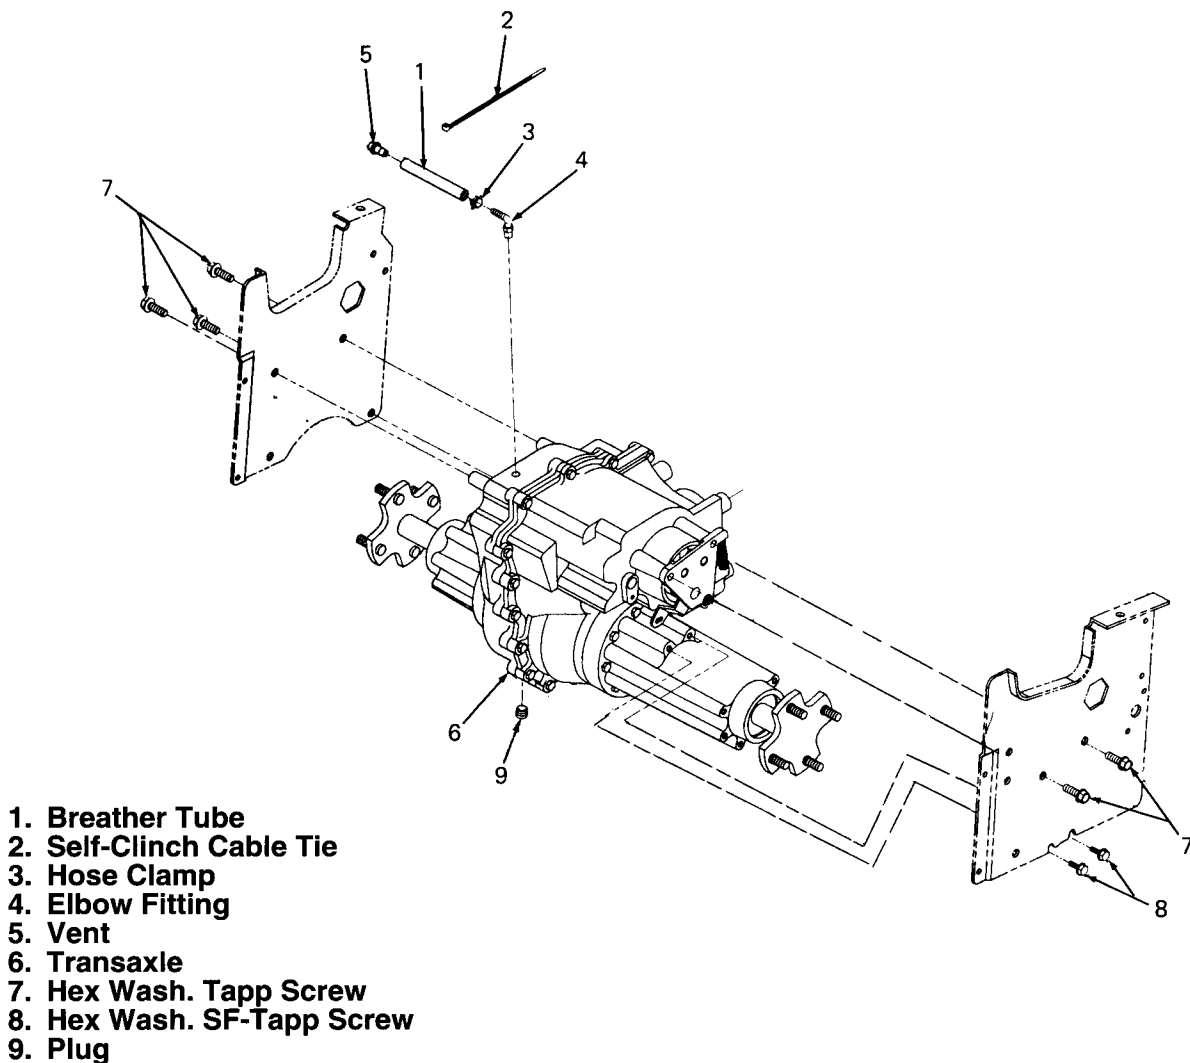

Figure 5-32. Transaxle Removal (All Models).
14. Remove the four screws (7 and 8, Fig. 5-32) securing the right side of the transaxle to the frame.
15. Remove the three screws (7) securing the left side of the transaxle to the frame.
16. Cut and remove the self-clinch cable tie (2, Fig. 5-32) securing the transaxle breather tube to the tractor frame.
2. Aligning the mounting holes of the frame and the transaxle, secure the left side of the transaxle to the frame using the three previously removed screws (7).
7. Secure the transaxle breather tube to the tractor frame using a new self-clinch cable tie (2, Figure 5-32). Do not over tighten the cable tie.